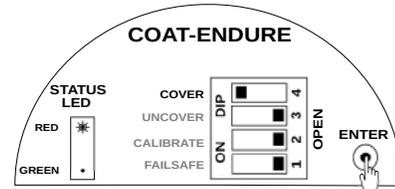

Figure 8: Setting Cover Delay
3. Press ENTER and keep it pressed as shown in Figure 8. The STATUS RED LED will start blinking. Count the number of blinks. After setting the value release the ENTER key.